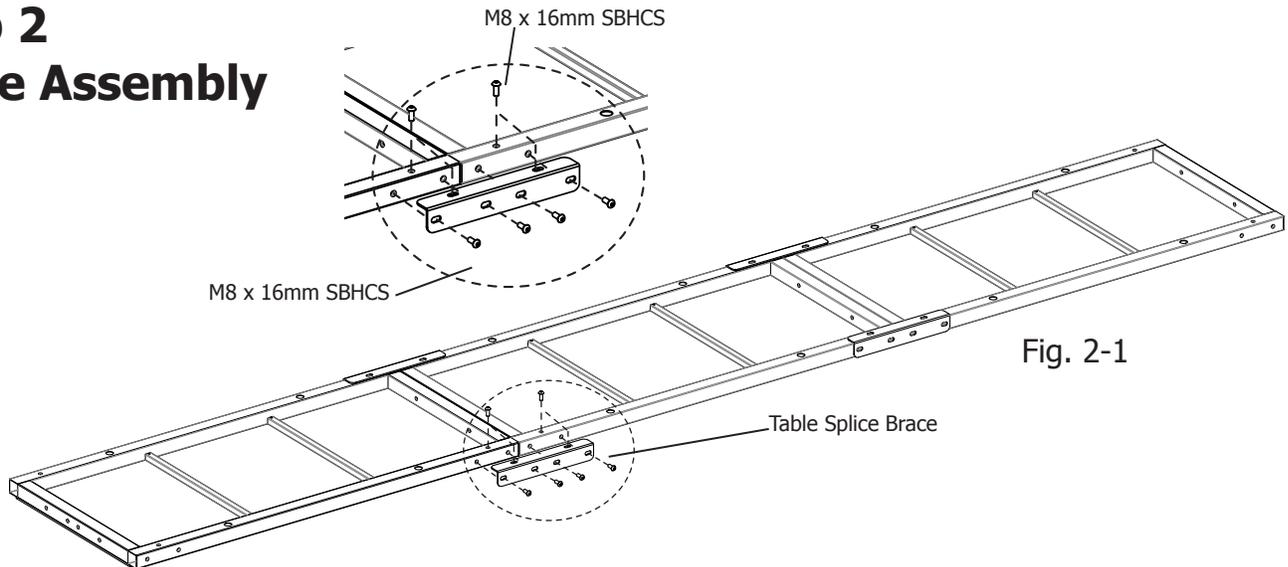

Fig. 2-1
**2-2: 12 foot:** Start with Two 4-foot table sections upside-down on the floor end to end. **10 foot:** start with one 2-foot and one 4-foot table sections upside-down on the floor end to end (as shown in Fig. 2-1). Join the sections together by placing a table splice brace onto the sections, lining up the holes in the brace with those in the sections. Make sure the flange portion of the brace is on top (as shown).
**2-3:** Place four (4) M8 x 16mm SBHCS through the side of each table splice brace and **finger-tighten** them into the table sections.
**2-4: Finger-tighten** two (2) SBHCS through the top of each table splice brace (as shown). (Fig. 2-1)